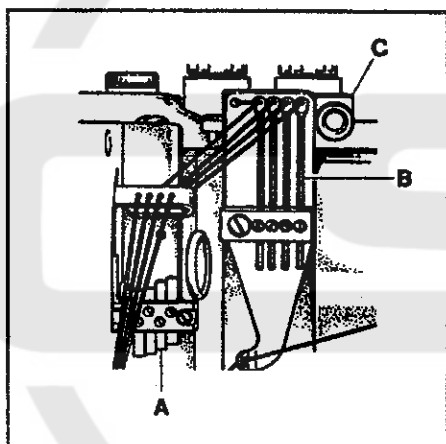

FIG. 31
Four needle thread strike-off pins (A, Fig. 31) are provided for independent needle thread control. Level the take-ups to the height of the thread in the needle lever eyelet at its lowest position. Raise the first take-up (nearest the operator) 1/8" (3.2mm) and the second take-up 1/16" (1.6mm). Further adjustment may be necessary to obtain proper needle loop size so skipped stitches may be avoided.
Set the four frame needle thread eyelets (B, Fig. 31) eye with the eyelets in holder (C). Adjust as necessary so the needle thread loops around the looper will remain firm and not seek random positions when the needle bar descends.